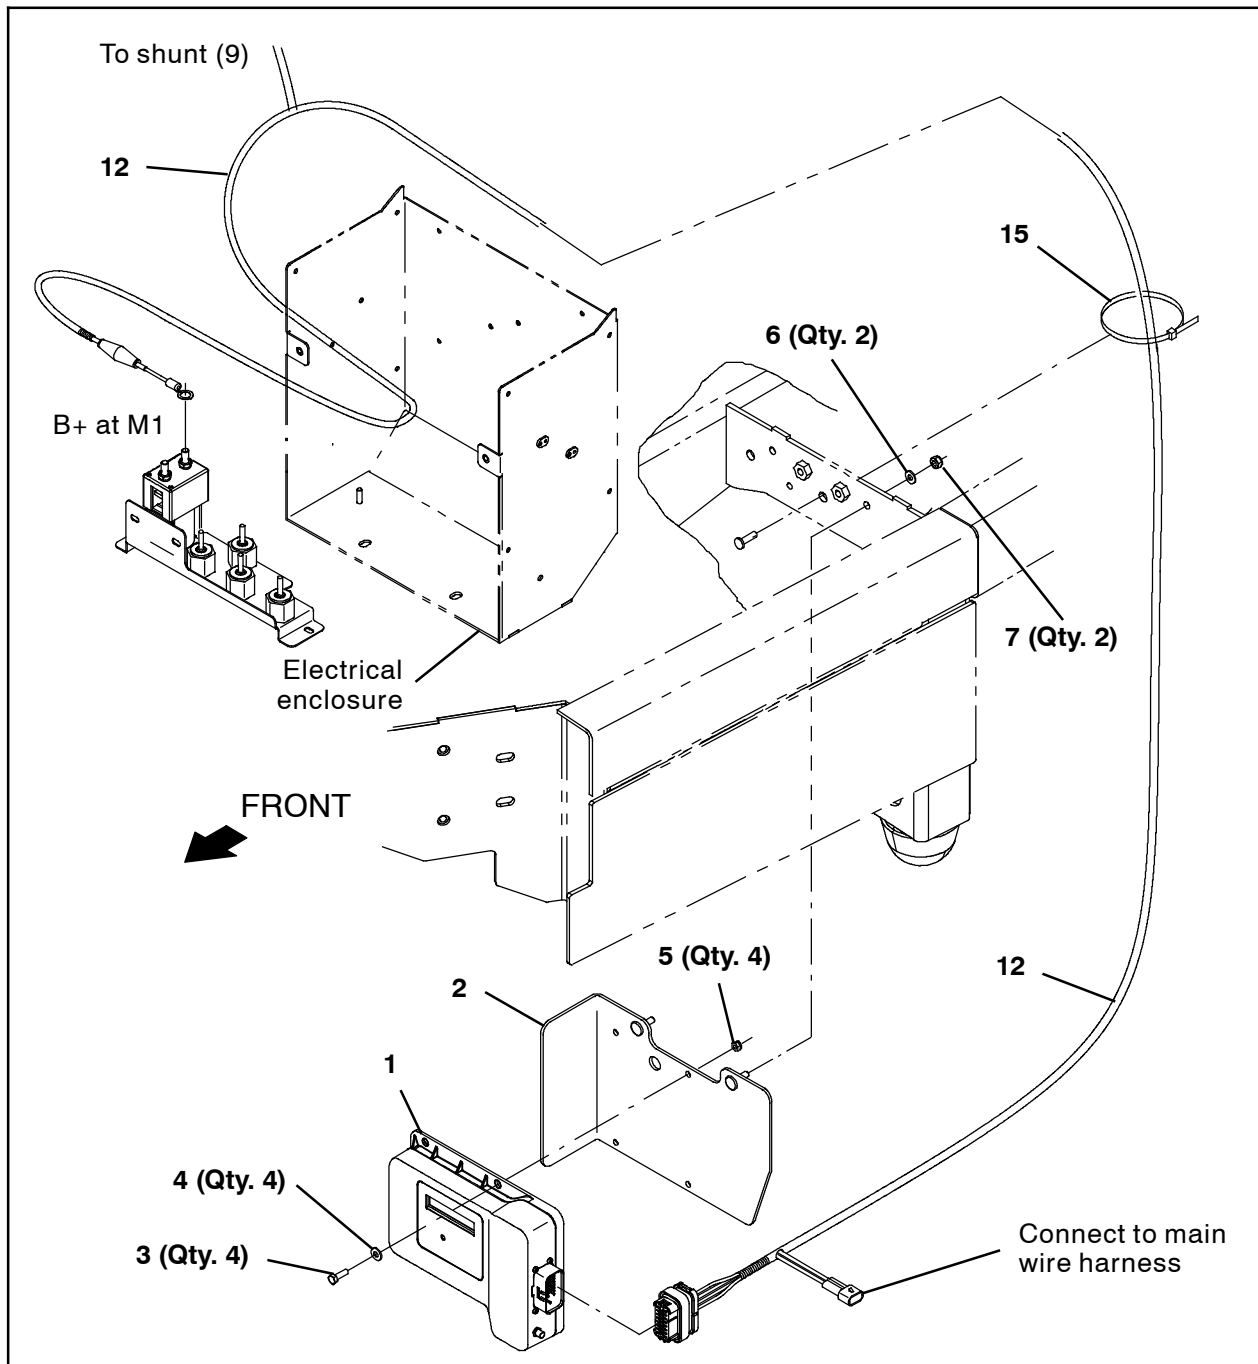
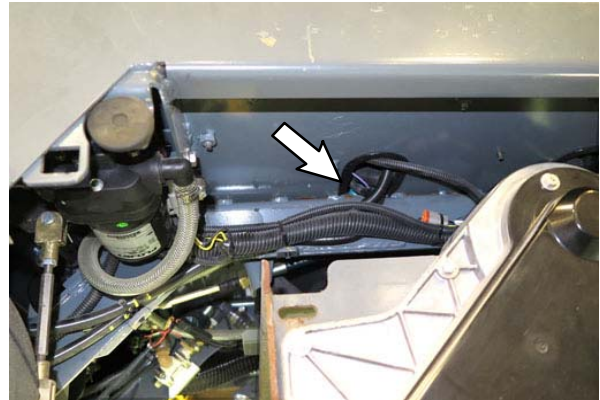

FIG. 11
FIG. 14
11. Use four M5 hex screws (3), four flat washers (4), and four M5 hex lock nuts (5) to install the telemetry control box (1) onto the telemetry bracket (2). (Fig. 11)
12. Use two M6 hex lock nuts (7) and two flat washers (6) to install the control box (1) / telemetry bracket (2) onto the frame of the machine. (Fig. 11)
13. Connect the telemetry harness (12) to the main wire harness. (Fig. 11 / Fig. 17)
14. Use a cable tie (15) to secure the telemetry harness (12) to the frame of the machine. (Fig. 11)
16. Route the telemetry harness (12) lead to be connected to the 36 VDC contactor up into the electrical enclosure and connect the lead to the 36 VDC B+ at M1 contactor. (Fig. 14 / Fig. 11 / Fig. 17)